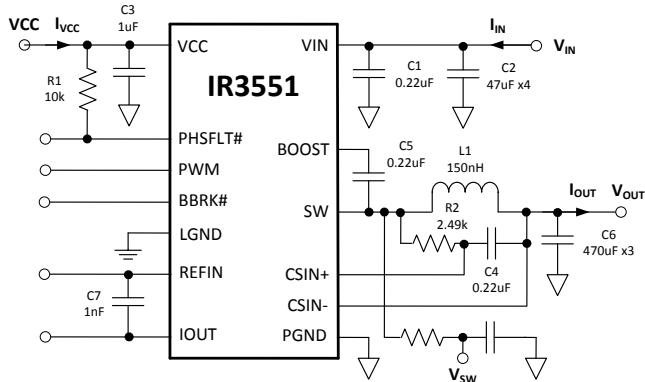

Figure 32: IR3551 Power Loss Measurement
Circuit of Figure 32, $V_{IN}=12V$, $V_{OUT}=1.2V$, $f_{SW}=400kHz$, $L=150nH$ (0.29mΩ), $VCC=7V$, $T_{AMBIENT}=25^{\circ}C$, no heat sink, no air flow, 8-layer PCB board of 3.7" (L) x 2.6" (W), no PWM controller loss, no inductor loss, unless specified otherwise.
The single-phase IR3551 efficiency and power loss measurement circuit is shown in Figure 32.